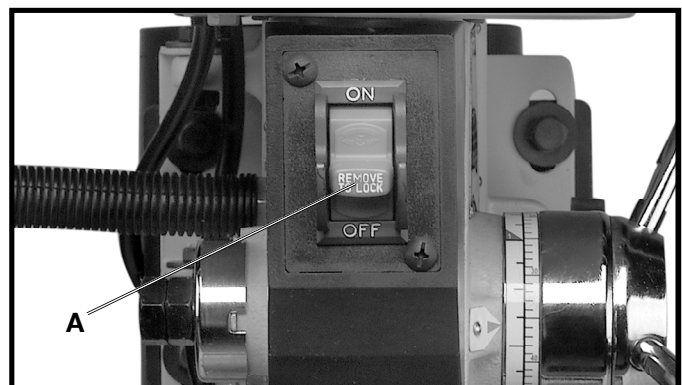

Fig. 18
The switch (A) Fig. 18, is located on the front of the drill press head. To turn the drill press “ON” move the switch up to the “ON” position. To turn the drill press “OFF” move the switch down to the “OFF” position.